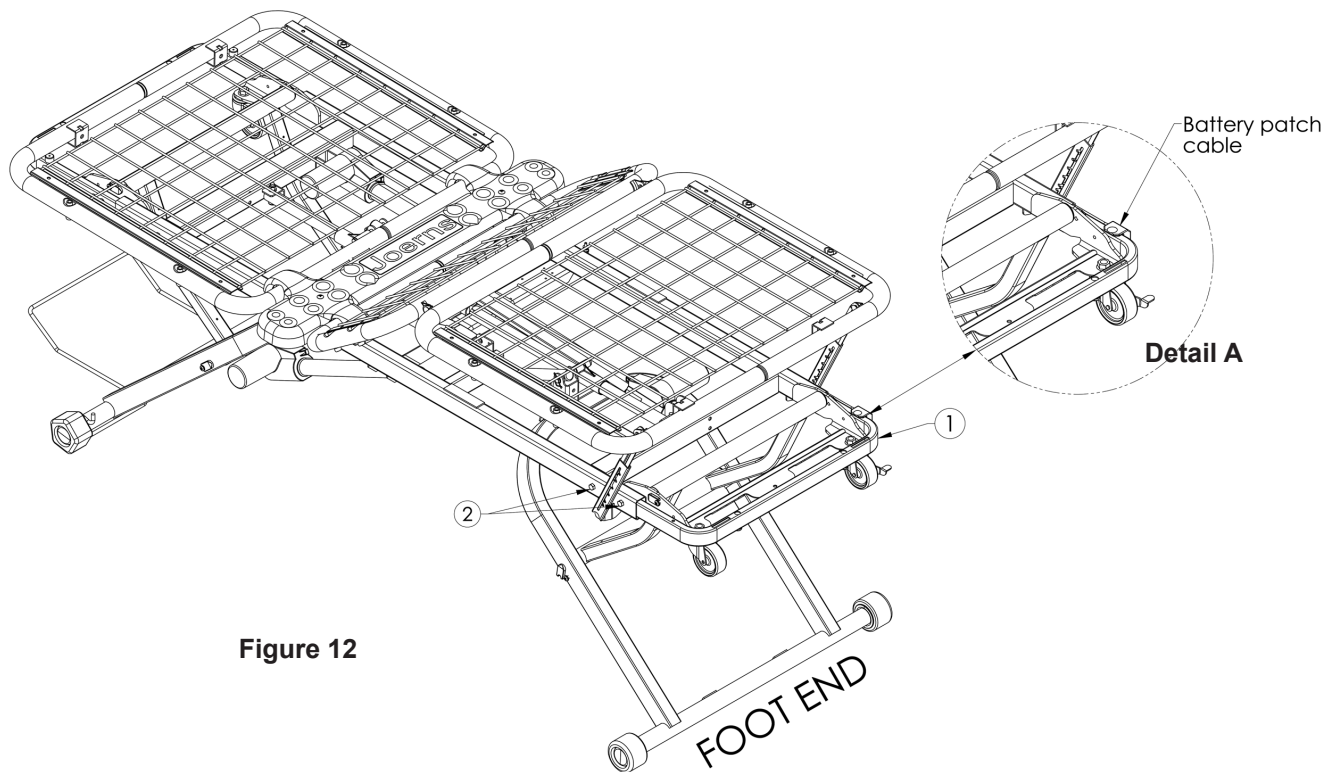

Figure 12
1. Raise the bed to a comfortable working height and raise the Foot Section (Figure 12).